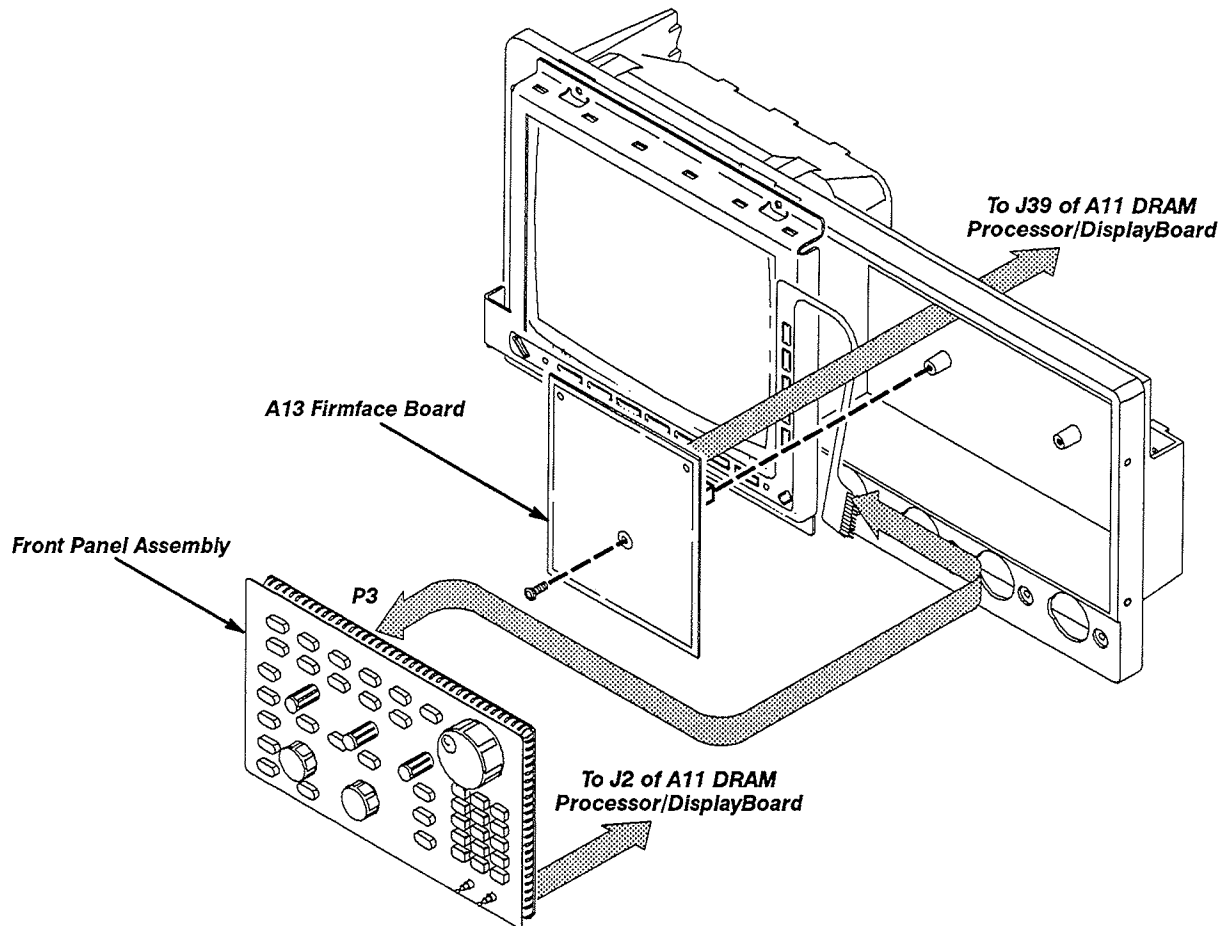

Figure 6-8: A12 Front-Panel Assembly and A13 Firmface Board Removal
5. *Remove the Firmface board:* Remove the three screws that secure the firmface board to the front subpanel. Now, grasp the firmface board and lift it straight out, disconnecting it from the Processor/Display board at J39, which is connected to J2 of the Firmface board. (See Figure 6-8 on page 6-25.)